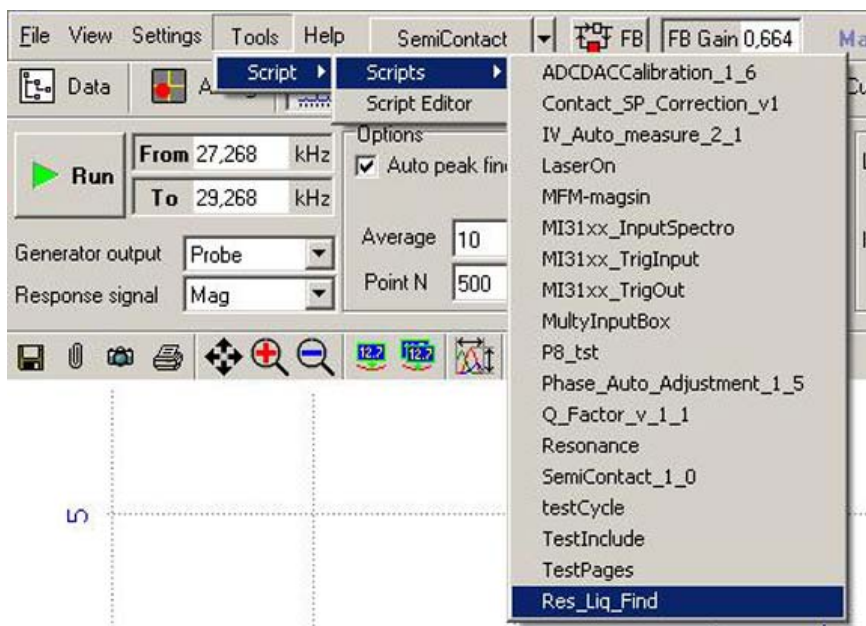

Fig. 1-4
3. In the main menu select subsequently **Tools** → **Script** → **Scripts** → **Res\_Liq\_Find** (Fig. 1-4).